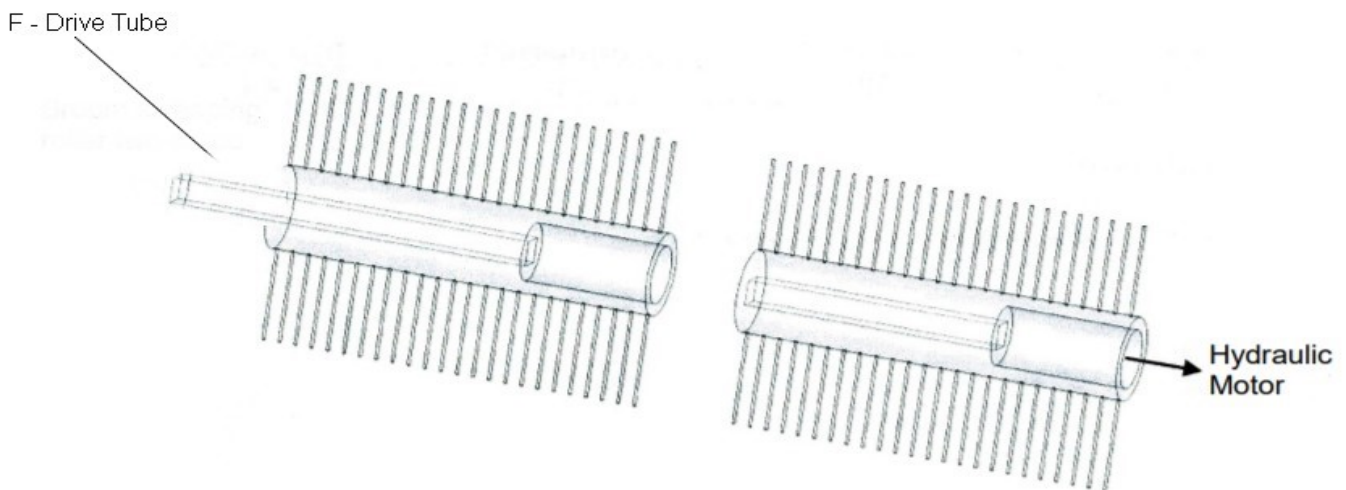

Fig.3 Brush and Drive Tube assembly
- 2) Using a socket spanner, remove Brush Centre Bolt (A) including Spring Washer (B) (This bolt is the whole length of the sweeper)
- 3) Remove Pulley for Gulley brush (C) (if fitted)
- 4) Remove Bearing Securing Nuts (D)
- 6) Withdraw Drive Tube (F—fig3) using grips from centre of brush.